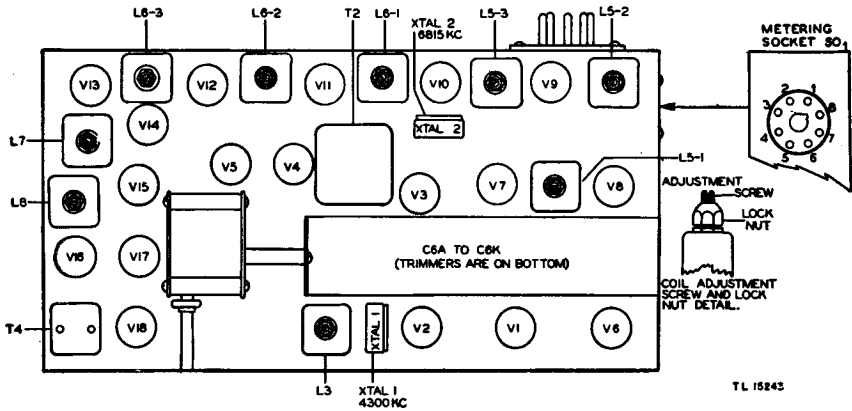

Figure 85. Radio Receiver and Transmitter BC-1000-A, alignment instruction detail—top view.
(4) Plug in Handset TS-15-( ).
(5) Set Alignment Indicator I-210-( ) VOLTAGE SELECTOR SWITCH in the 4.5-volt position, short the test probe to the alligator clip, and adjust the calibrate knob for a hairline shadow on the indicator eye.
(6) Loosen the locknuts on L3, L5-1, L5-2, L5-3, L6-1, L6-2, L6-3, L7, and L8, just enough to leave some tension on the screw adjustment. (See fig. 85.) Use the spintite wrench found in Maintenance Equipment ME-40-( ).
(7) Screw phantom Antenna A-28-( ) into the antenna terminal of Radio Receiver and Transmitter BC-1000-A, and attach the ground lead to the GROUND FOR SHORT ANT. post.
(8) Turn on the set.
(9) Plug Alignment Indicator I-210-( ) into Battery BA-39.
(10) Throw the VTVI VOLTAGE SELECTOR SWITCH SW1 to the 30-volt position and turn the CALIBRATE knob to open the shadow angle on the indicator eye to 90°.
*b. ALIGNING 4.3-MEGACYCLE OSCILLATOR.* (1) Insert the test probe in metering socket pin No. 4 of Radio Receiver and Transmitter BC-1000-A and fasten the alligator clip to the chassis.
*a. PRELIMINARY PROCEDURE.* (1) Remove the chassis of Radio Receiver and Transmitter DC-1000-A from the case,
(2) Before attempting to align the set, check all the tubes, using the method outlined in table XII.
(3) Connect Radio Receiver and Transmitter BC-1000-A to Battery BA-70 or BA-80 with the battery cord furnished with Maintenance Equipment ME-40-( ), or plug the set directly into the battery.
(5) Turn on the set.
(6) Check the discriminator, *b*(5), below.
(7) Loosen locknuts on L3, L5-1, L5-2, L5-3, L6-1, L6-2, L6-3, L7, and L8 just enough to allow adjustment of screws. (See fig. 85.)
(8) Turn on the 4.3-mc signal generator and allow it to warm up for at least 15 minutes.
(9) Use a suitable phantom antenna, such as phantom Antenna A-28-( ), if available. When employing this procedure in the field, do not press the PRESS FOR DIAL LIGHT & CALIB. button unless a phantom antenna is installed.
*b. ALIGNMENT.* (1) *4.3-megacycle crystal oscillator.* (a) Insert the electronic voltmeter probe into pin No. 4 of the metering socket.